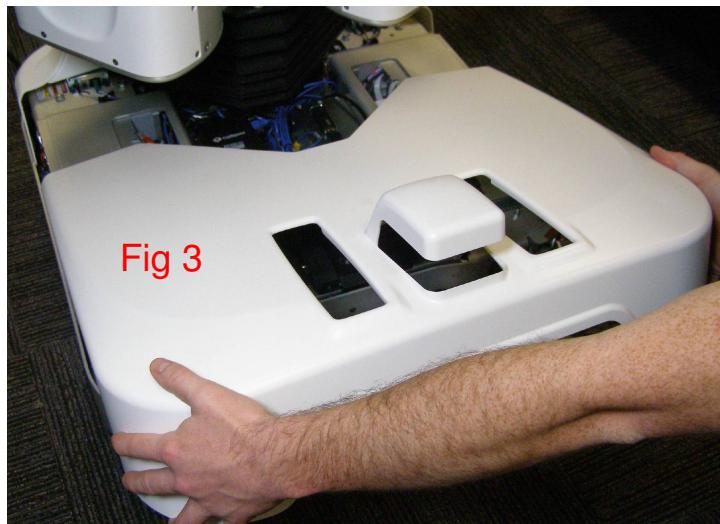

Fig 3
- 4. Slide the Panel forward about 30cm and lift it from the Robot. (Fig 3)